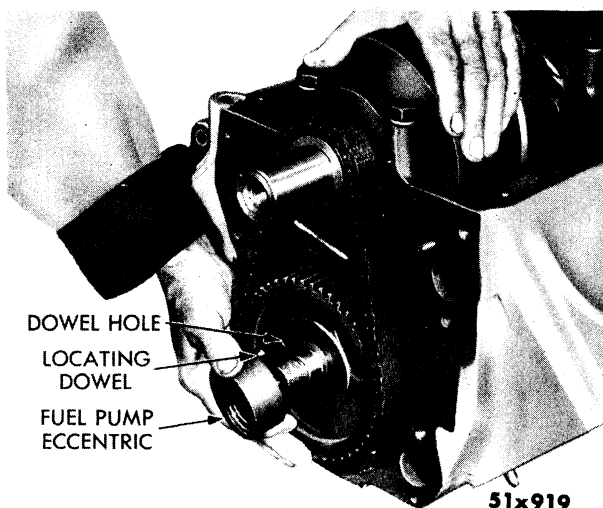

Fig. 107—Installing Fuel Pump Eccentric
- (3) With the timing marks aligned, push gear on camshaft and install the fuel pump eccentric, as shown in Figure 107. Install nut and tighten to 125 foot-pounds torque.
- (4) Slide the crankshaft oil slinger over shaft and up against gear (flange away from gear).